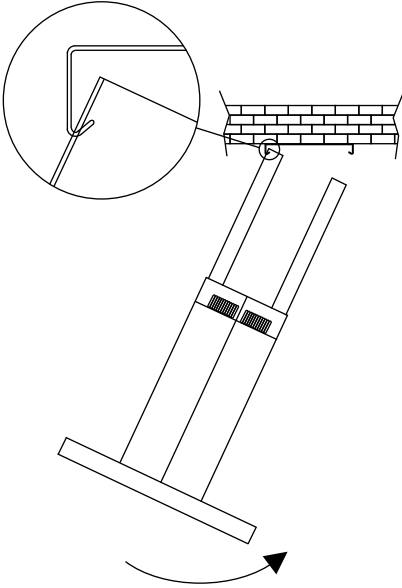

Fig 8
6. Hang one side of the chimney sleeve onto the ceiling bracket and then push the other side up to attach the extractor and chimney to the ceiling bracket (Fig 8 & 9).